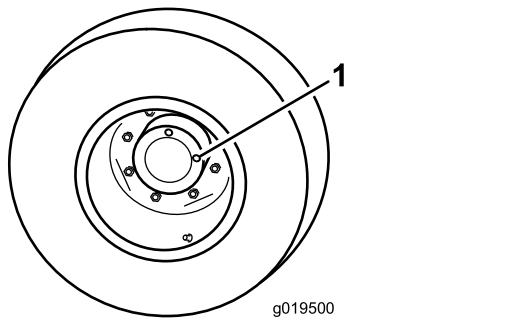

Figure 16
1. With machine on level surface, position the wheel so 1 check plug is at the 12 o'clock position and the other is at 3 o'clock position (Figure 16).
1. Check/drain plug (2)
2. Remove the plug at the 3 o'clock position (**Figure 16**).